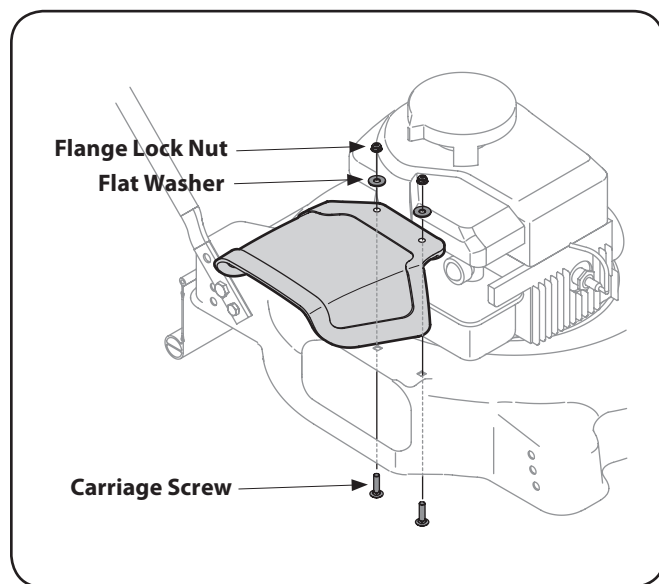

Figure 3-1
1. Place the chute deflector in position on the deck, aligning holes. See Figure 3-1.